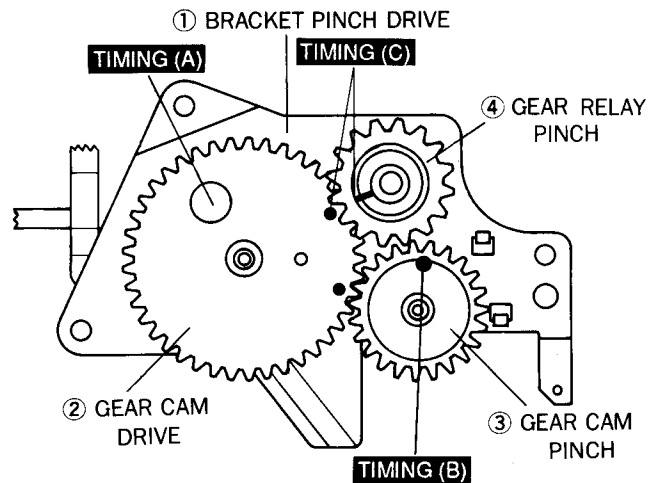

Fig. 41 Timing of Gear Cam Drive, Gear Cam Pinch & Gear Relay Pinch
1. Align the hole of the bracket pinch drive ① with the hole of the gear cam drive ②.
(Refer to timing (A) in Fig. 41)
2. Align the hole of the bracket pinch drive ① with the hole of the gear cam pinch ③.
(Refer to timing (B) in Fig. 41)
3. Align the protrusion on the side of the gear relay pinch ④ with the hole of the gear cam drive ②.
(Refer to timing (C) in Fig. 41)